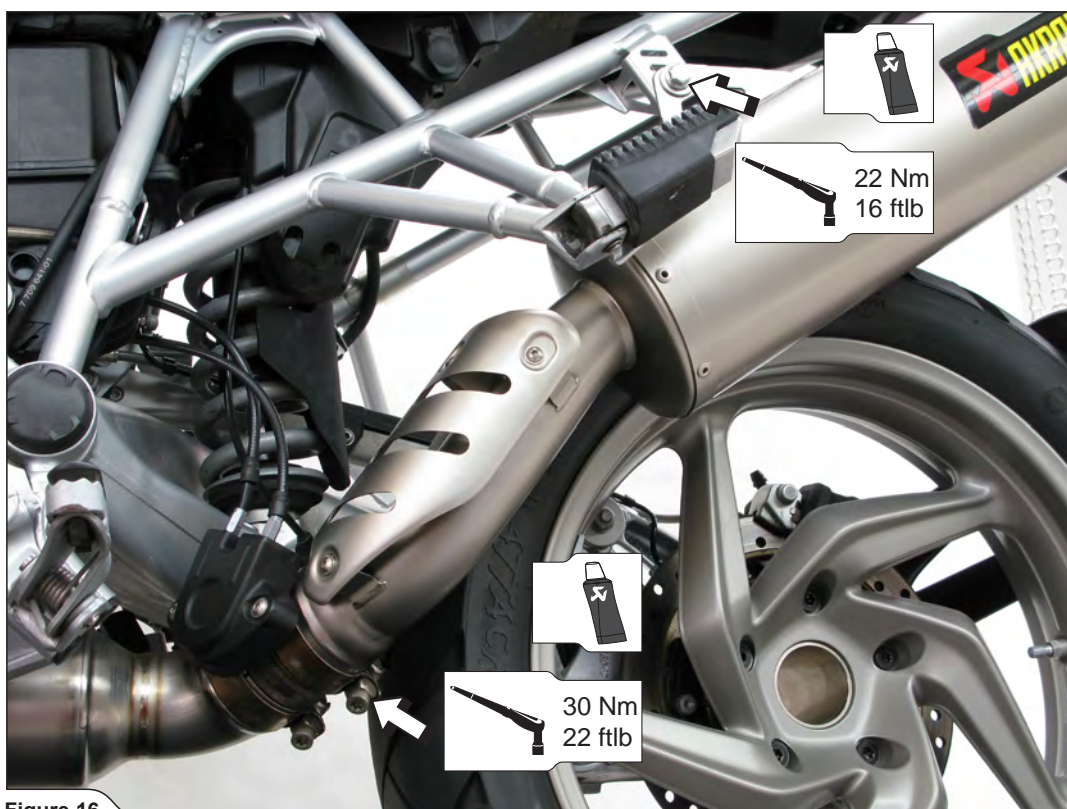

Figure 16
8. Position the muffler correctly and slide it onto the outlet side of the stock exhaust valve. Align the muffler in respect to the motorcycle and tighten the marked bolts to a specified torques (**Figure 16**).